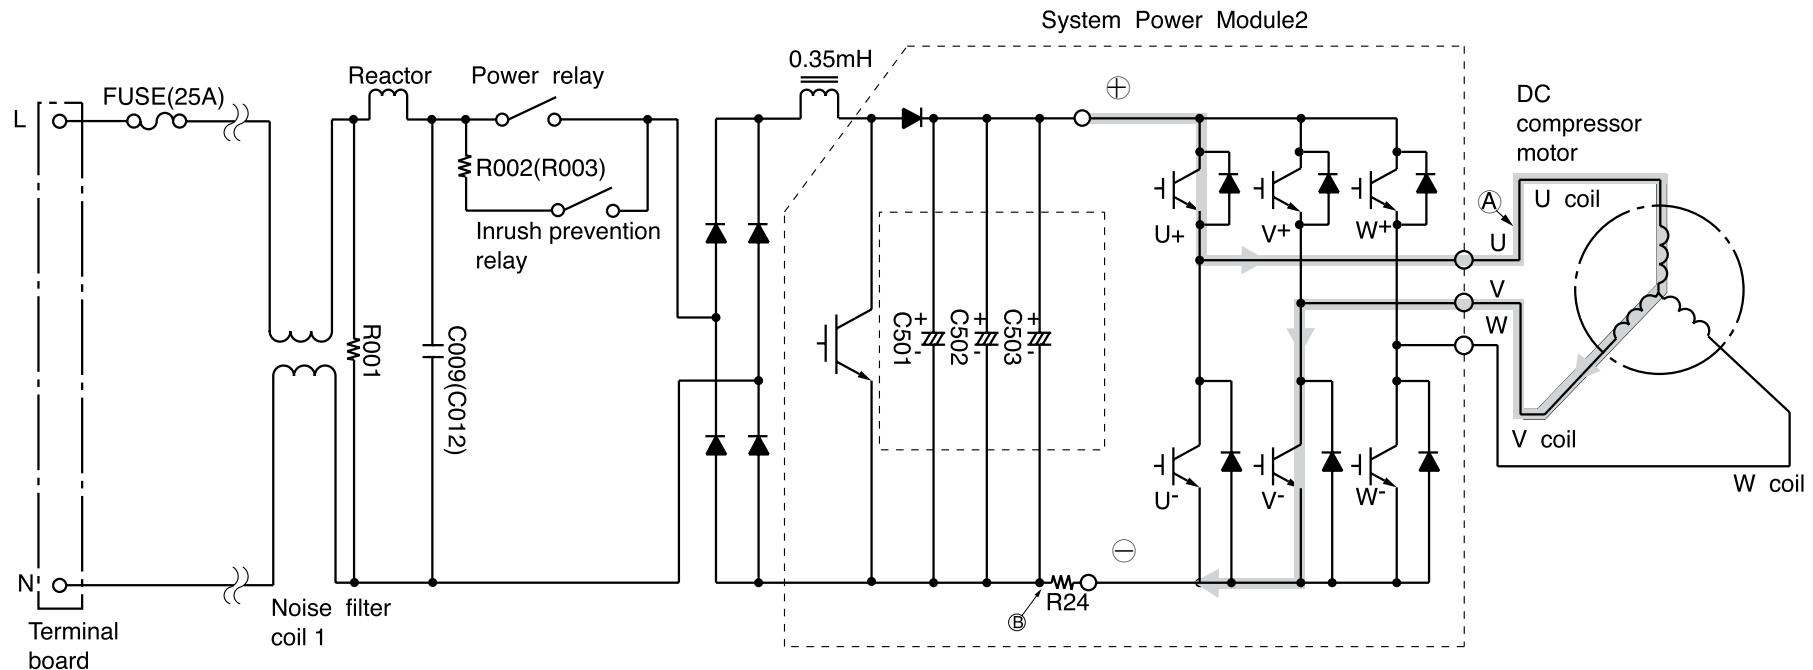
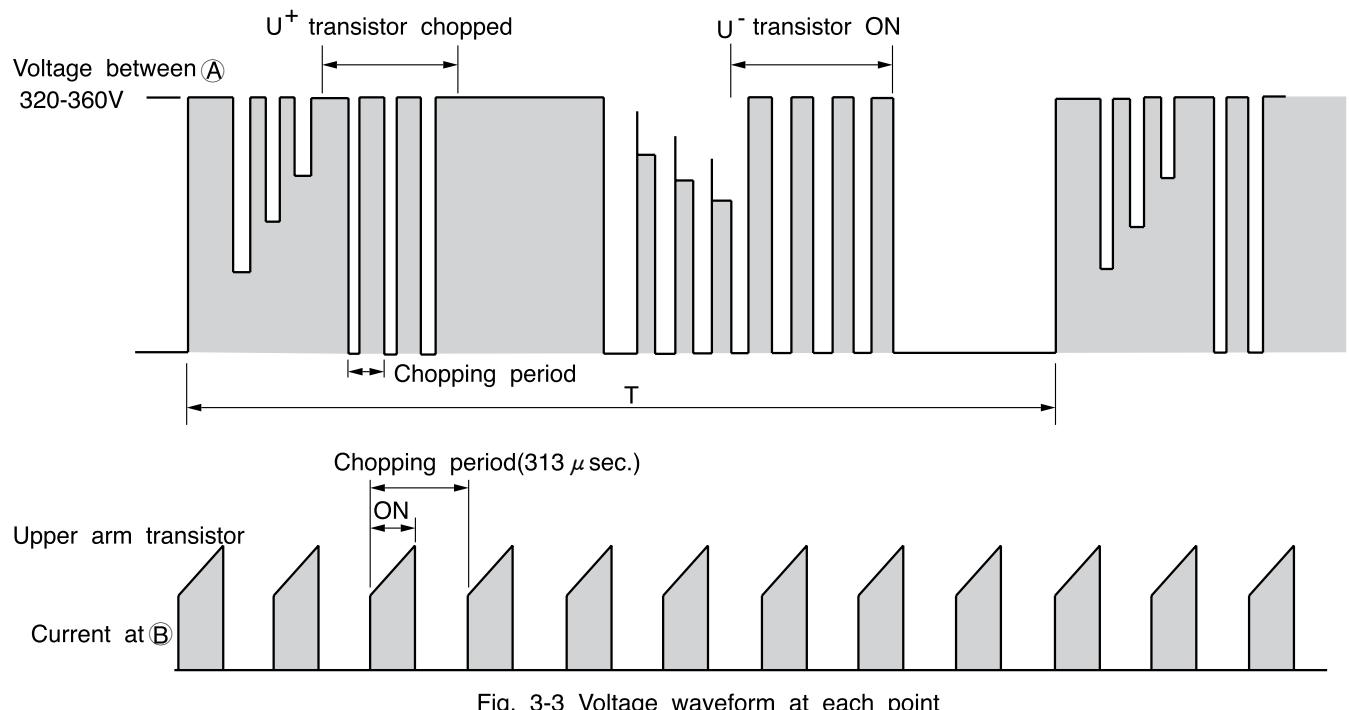

Fig. 3-1 Power module circuit (U^+ is ON, V^- is ON)
Fig. 3-3 Voltage waveform at each point
- Fig. 3-1 shows the power module and its peripheral circuit. The three transistors on the positive \oplus side are called the upper arm, and the three transistors on the negative \ominus side, the lower arm.
- RAM-70QH4 and RAM-80QH4 have two power module circuits as shown in Fig. 3-1 because of providing for two cycles and two compressors style.
[At point E: U^+ is ON, V^- is ON (circuit in Fig. 3-1)
- Fig. 3-3 shows voltage waveform at each point shown in Fig. 3-1 and 3-4. First half of upper arm is chopper, second half is ON, and first half of lower arm is chopper, second half is ON.
- When power is supplied $U^+ \rightarrow U^-$, because of that U^+ is chopped, current flows as shown below; ②
- When U^+ transistor is ON: U^+ transistor → U coil → V coil → V^- transistor → DC current detection resistor → Point ② (Fig. 3-1)
- Since current flows at point ⑧ only when U^+ transistor is ON, the current waveform at point ⑧ becomes intermittent waveform as shown in Fig. 3-3. Since current at point ⑧ is approximately proportional to the input current of the air conditioner, input current is controlled by using DC current (I_d) detection resistor.